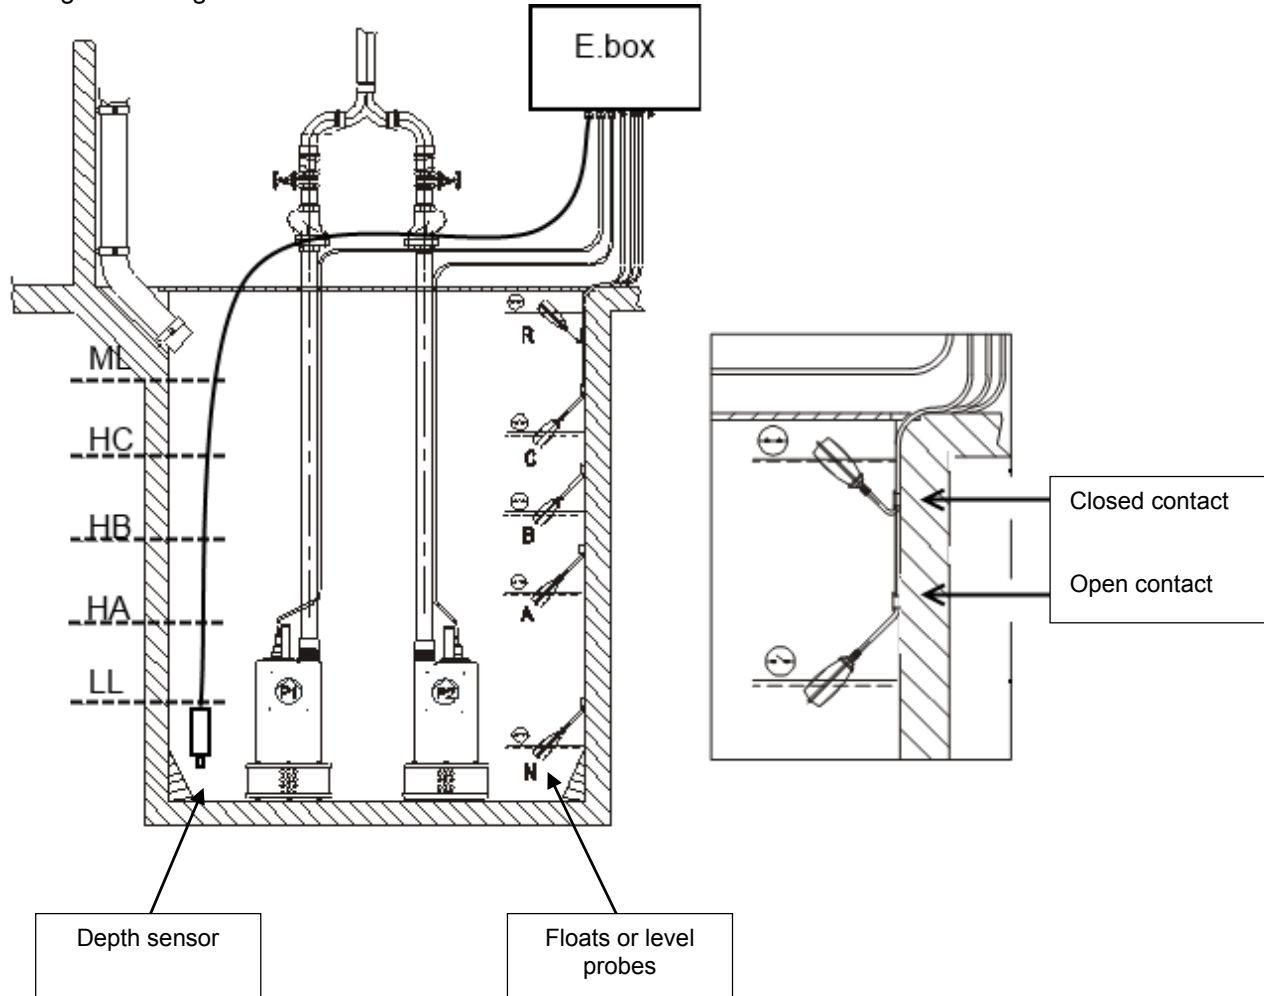
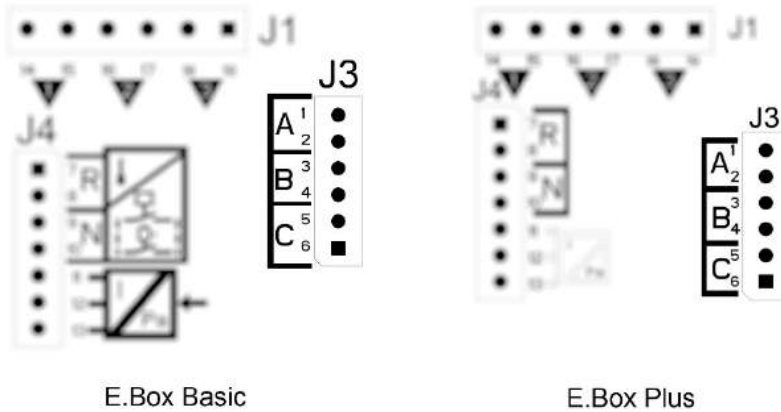

Figure 31: Draining system diagram
Figure 34: Inputs
- Use floats for draining, closed contact with low water level, see Figure 31 draining.
- **System with 2 floats or level probes:** in this case inputs B and C are used. Terminal A must be left free. The floats in the tank must be connected as in Figure 31. For electrical installation, see Figure 34 Inputs.
- **System with 3 floats or level probes:** in this case inputs A, B and C are used. The floats in the tank must be connected as in Figure 31: drainage system diagram. For electrical installation, see Figure 34 Inputs.